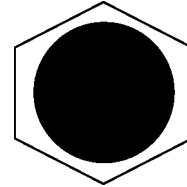

**Figure 54. MPEC Control Switch (Off/Reset)**
4. Place the **MPEC Control Switch** (Figure 54) to the **OFF/RESET** position.